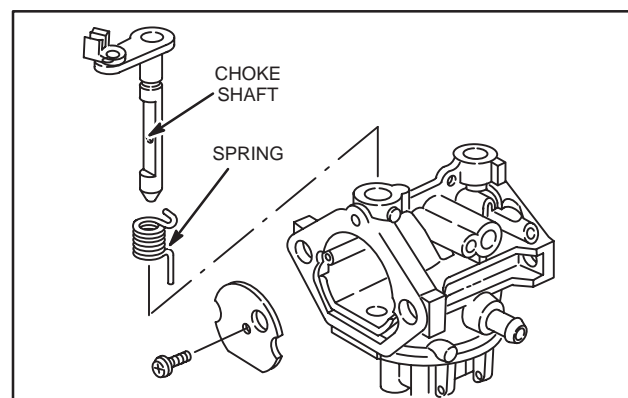

Fig. 11 – Removing Choke Shaft
- a. Remove choke shaft and spring, Fig. 11.